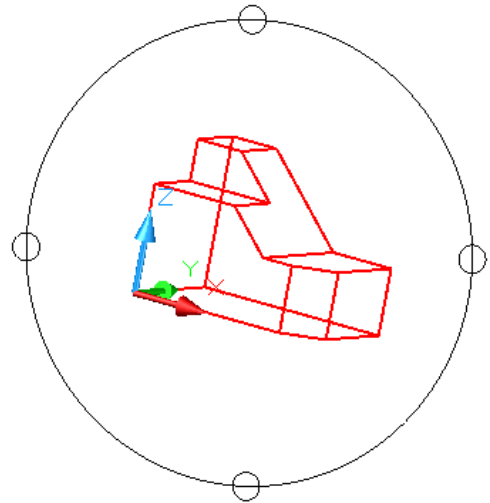

Figure Step 11
Step 11 Move the cursor onto the small circle on the bottom. Press and hold down the left mouse button and while holding it down, move the slowly up until your model appears as shown in the figure. (Figure Step 11)